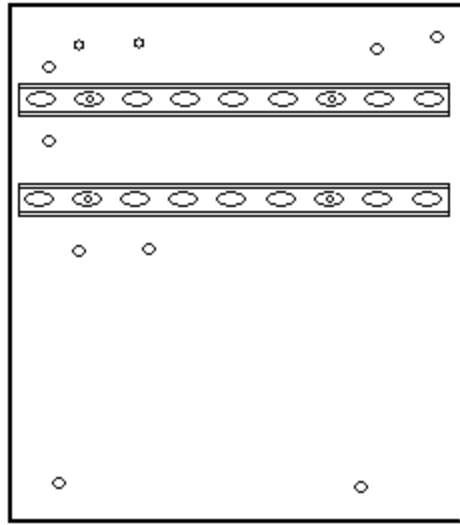

FIGURE 13
(4) REQ'D (MECH), (8) REQ'D (INBAY)
Bolt the (2) pieces of uni-strut (Item 2) to the lift cabinet side with holes, using (4) 5/16-18 x 5/8 hex head screws (Item 6), (4) 5/16 flat washers (Item 4), & (4) 5/16-18 keps nut (Item 5). Make sure uni-strut is pushed as far as possible to the back of the side. Once in position, level and tighten the uni-strut. See Figure 13 below.